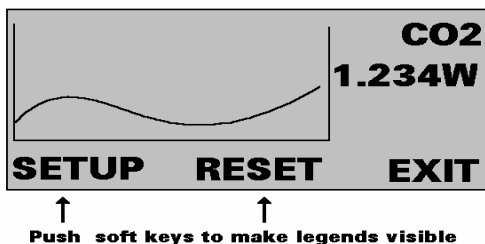

Figure 6.
4.4.2.4 Powerlog (See figure 6)